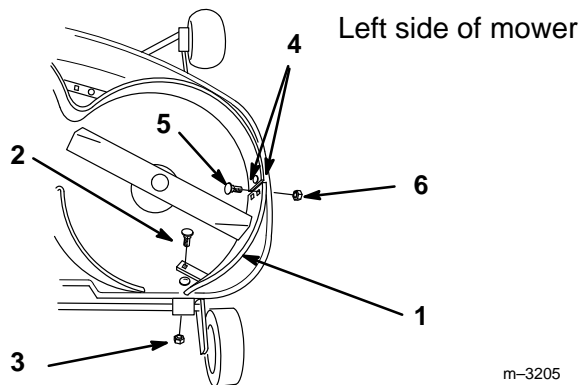

Figure 7
2. Locate rear left baffle tab over upper wheel bracket hole and install new 3/8-16 x 1" (26 mm) carriage bolt, with head on the inside. Secure with 3/8" locknut (Fig. 7).
4. Using the baffle as a guide, drill (2) 11/32" holes in the left side of the mower (Fig. 7).
5. Place (2) 5/16-18 x 3/4" (19 mm) carriage bolts through baffle, with heads on the inside. Secure with 5/16" locknuts (Fig. 7).